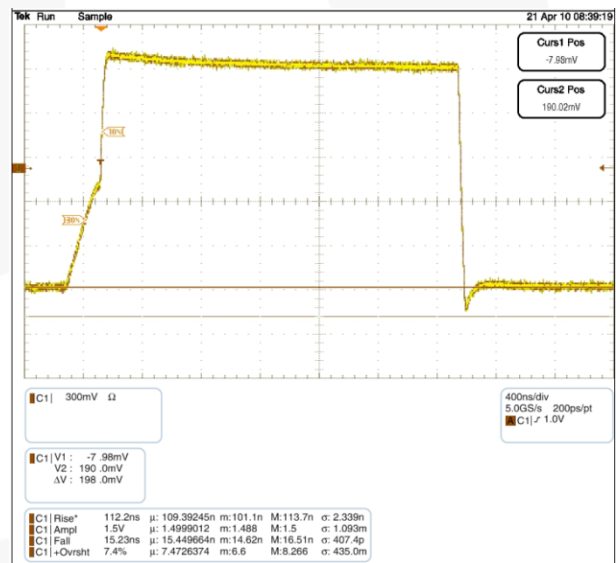

Figure 4. Waveform C: 600pF, Total RPU: 2.2K $\Omega$
$C =$  the bus capacitance. If the FXMAR2104 is attached to the master [on the A port] and there is a slave on the B port, the Npassgates act as a low resistive short between the ports until either of the port's  $V_{CC}/2$  thresholds are reached. After the RC time constant has reached the  $V_{CC}/2$  threshold of either port, the port's edge detector triggers both dynamic drivers to drive their respective ports in the LOW-to-HIGH (LH) direction, accelerating the rising edge. The resulting rise time resembles the scope shot in Figure 4. Effectively, two distinct slew rates appear in rise time. The first slew rate (slower) is the RC time constant of the bus. The second slew rate (much faster) is the dynamic driver accelerating the edge.